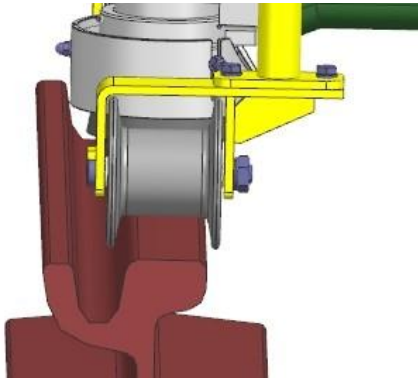

Fig. 7: Roller with double flange for exposed deep-groove rails
| 7. Grinding of deep-groove and flat-groove rails (Figs. 7 to 9) | 7 |
- with double flange for exposed deep-groove rails (Fig. 7)
7. Grinding of deep-groove and flat-groove rails (Figs. 7 to 9)